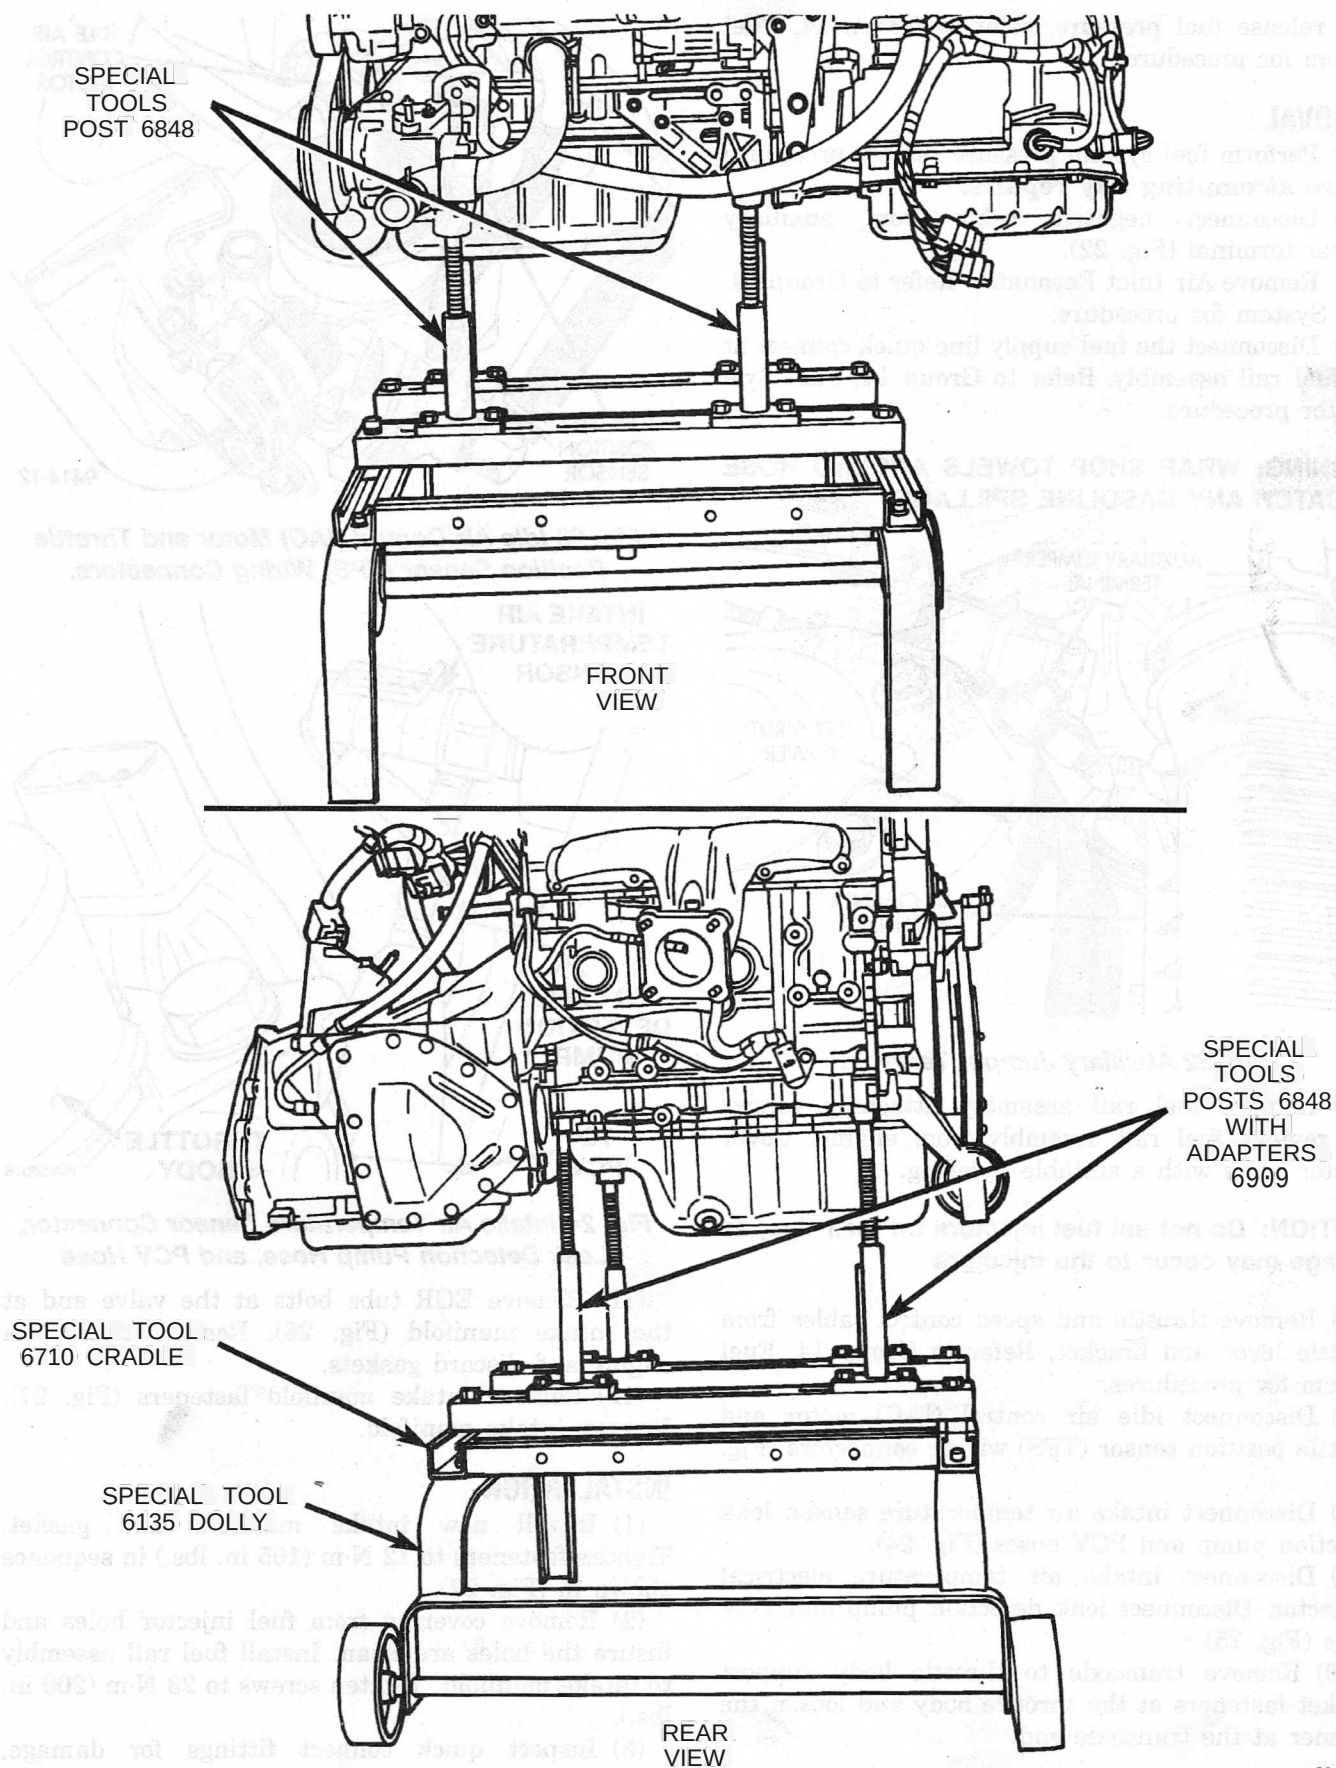

Fig. 21 Positioning Engine Cradle Support Post Mounts
(13) Remove accessory drive belts. Refer to Accessory Drive Belt Removal in Group 7.
(14) Remove axle shafts.
(15) Disconnect exhaust pipe from manifold.
(16) Remove through bolts from front and rear engine mounts.
(17) Remove front and rear mount brackets from the engine and transmission.
(18) Remove collar. Remove converter bolts and mark converter for reassembly.
(19) Lower vehicle.
(20) Remove power steering pump, reservoir and hoses. Position components for engine removal.
(21) Remove NC suction line at compressor. Cap suction port and line.
(22) Remove ground straps to body.
(23) Raise vehicle enough to allow engine dolly 6135 and cradle 6710 with posts 6848 to be installed under vehicle (Fig. 21).
(24) Loosen cradle engine mounts to allow movement for positioning onto engine locating holes on the engine bedplate, compressor and support bracket. Install adapters 6909 to the two post at rear of engine. Lower vehicle and position cradle mounts until the engine is resting on mounts. Tighten mounts to cradle frame. This will keep mounts from moving when removing or installing engine and transmission.
(25) Lower vehicle so weight of the engine and transmission ONLY is on the cradle.
(26) Remove engine and transmission mount bolts.
(27) Raise vehicle slowly. It may be necessary to move the engine/transmission assembly on the cradle to allow for removal around body flanges.